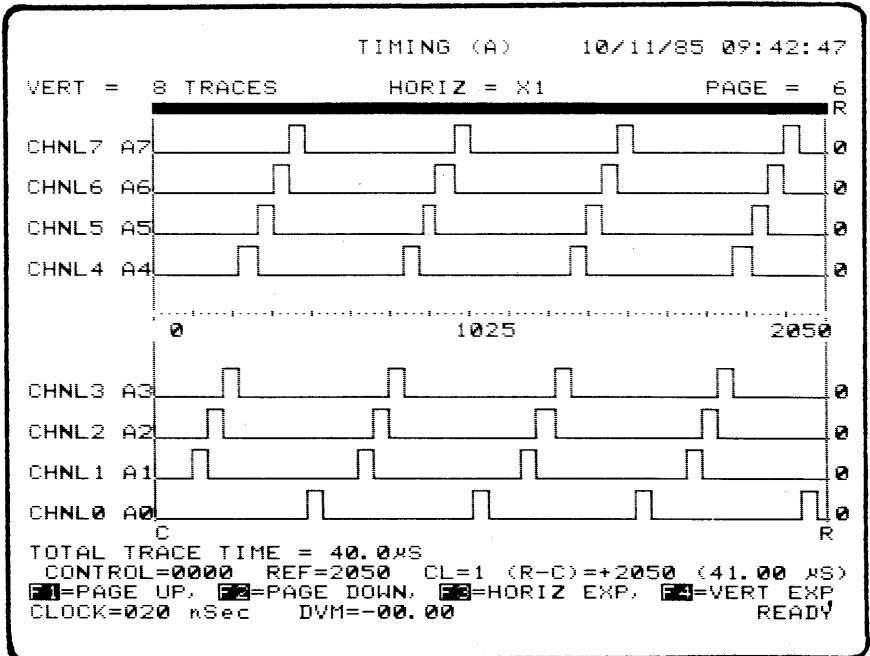

Figure 4-4. Timing Screen Display
- b. Depress key F1 repeatedly until the A0-A7 input traces are displayed (Figure 4-4).